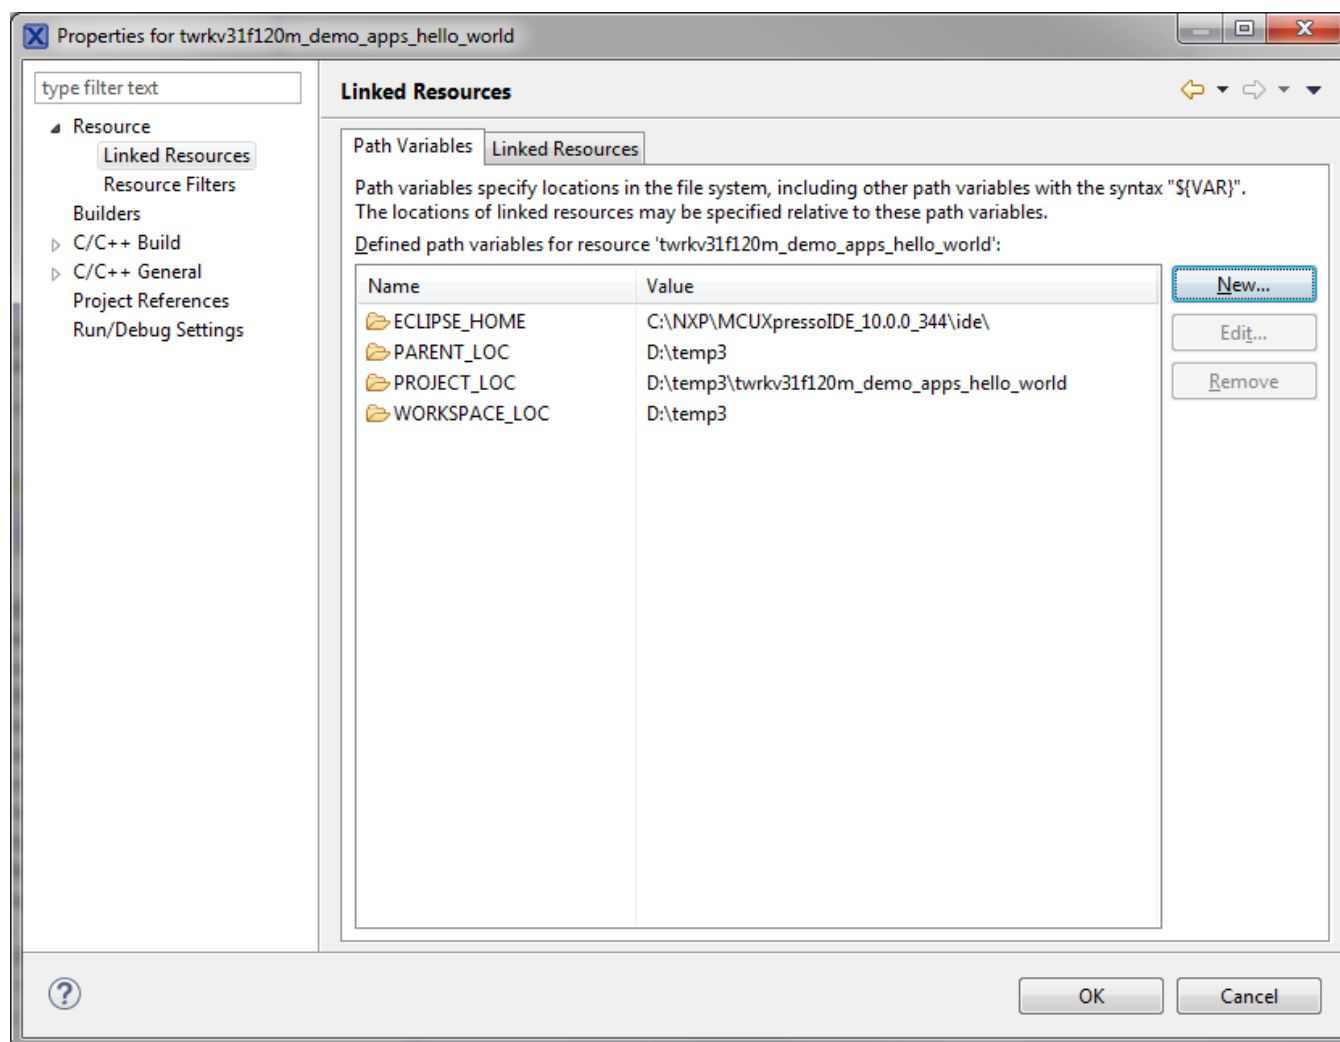

Figure 1-1. Project properties
2. Expand the Resource node and click Linked Resources. See Figure 1-1.